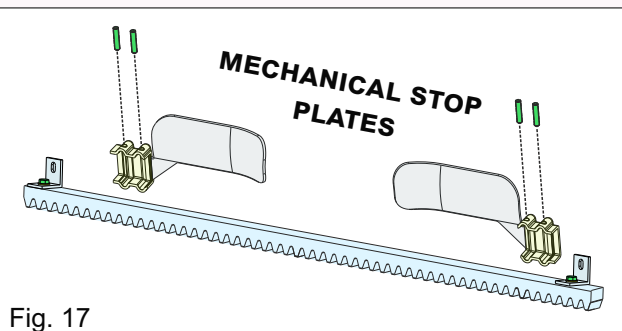
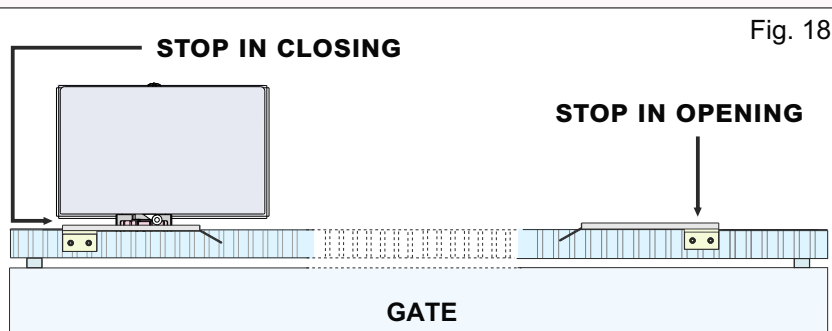

Fig. 17
Fig. 18
- Place the plate - Fig. 17 - on the rack according to the desired gate stop position - Fig. 18; fix the plate on the rack using the supplied screws.